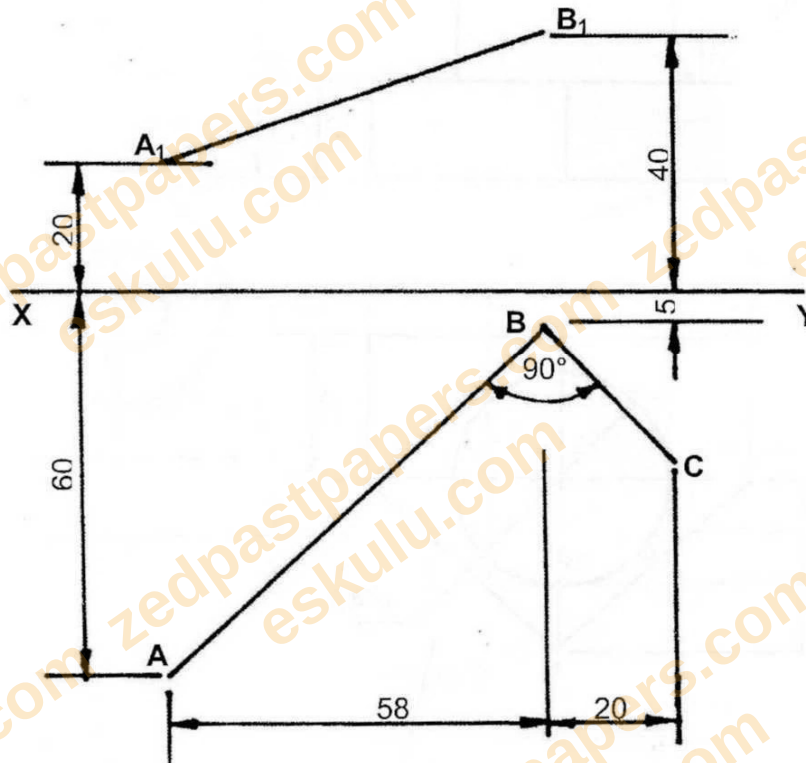

Figure 4
The Figure 4 shows the plan and incomplete elevation of two straight lines which meet at B.
Question 7. SECTION B, Q7 [20]. Figure 4 shows the plan and incomplete elevation of two straight lines meeting at B, with C1 60mm above the horizontal plane (HP). Draw the plan and complete elevation, then determine the true angle between AB and BC and the total true length of line ABC.